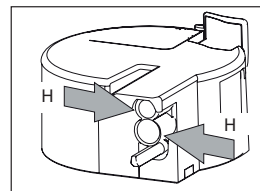
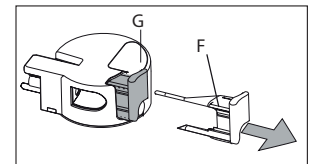

Fig. 46
Fig. 47
- ▶ Remove the frothed milk regulator (F) by pulling it outwards.
- ▶ Wash all the components thoroughly with hot water and mild washing-up liquid. Make sure there are no milk residues left inside the holes (Fig. 46) and the groove on the fine end of the frothed milk regulator (Fig. 47).